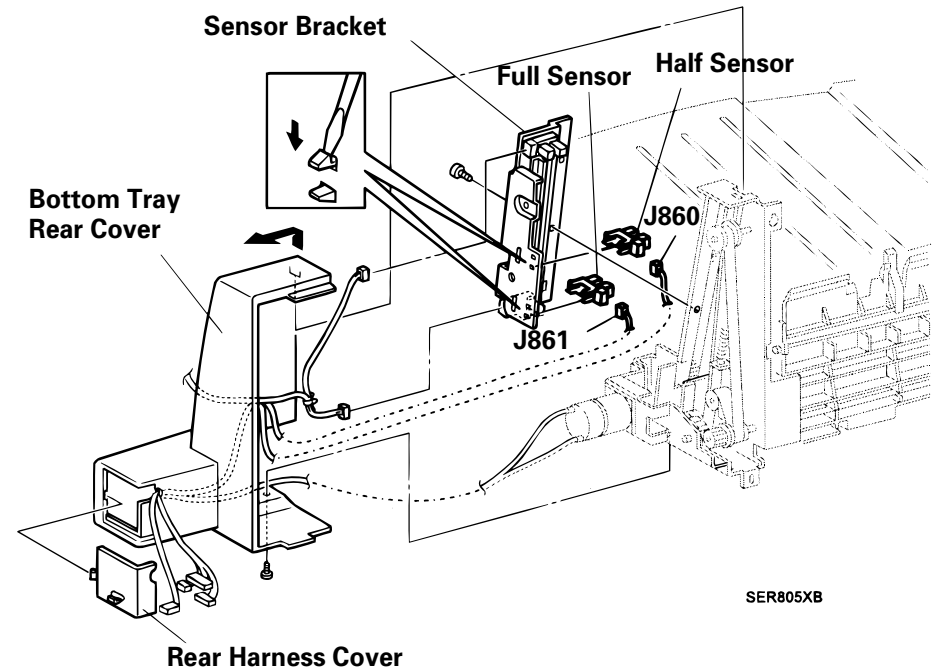

Figure 3-34. Middle Tray Half and Full Sensors
1. Place the Full Sensor as shown in the Figure 3-34 and insert it with latches ahead into the cutouts of the Sensor Bracket and set the latches on.
3. Place the Half Sensor as shown in the Figure 3-34 and insert Half Sensor with latches ahead to the cutouts of the Sensor Bracket and set the latches on.